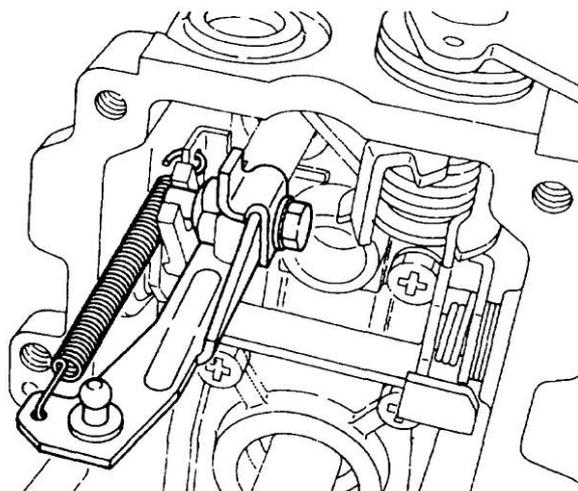

Figure 115 Installation of the Start Spring
- s. With the aid of long-nose pliers, install the start spring into the spring eye secured to the governor housing and to the control rack connecting link, (Figure 115).